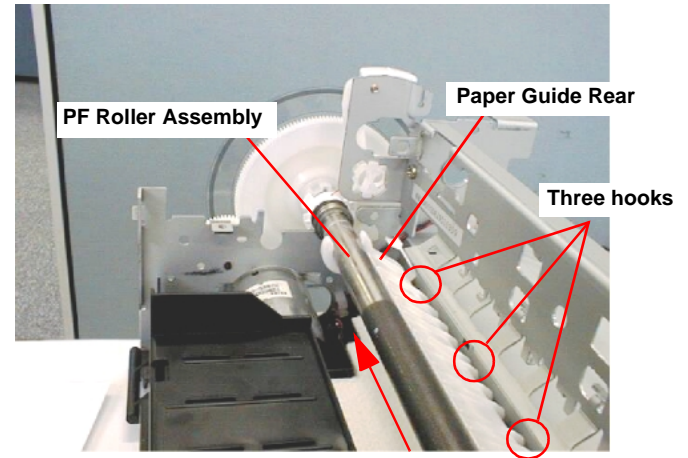

Figure 4-64. Removing the PF Roller Assembly
- 17) Release the three hooks fixing the Paper Guide Rear and slide it to the left. Refer to Figure 4-64.
- 18) Slide the PF Roller Assembly to the left side carefully and pull it out from the Printer Mechanism. Refer to Figure 4-64.